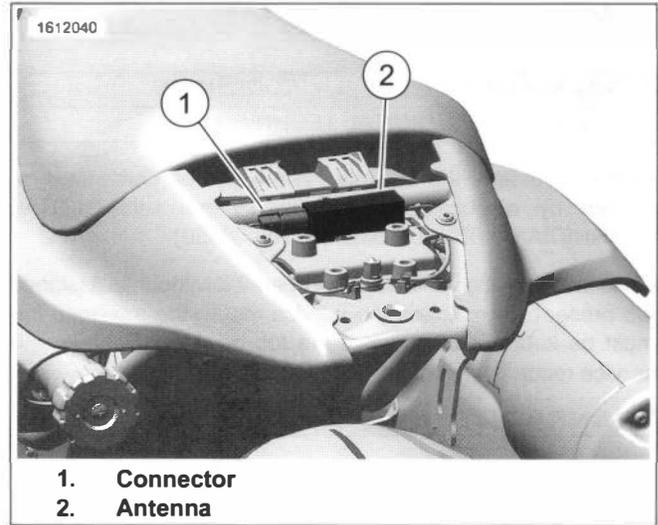

Figure 8-55. Security Antenna
1. See Figure 8-55. Remove antenna (2).
- b. Disconnect connector (1).
1. See Figure 8-55. Install antenna (2).
- a. Connect connector (1).